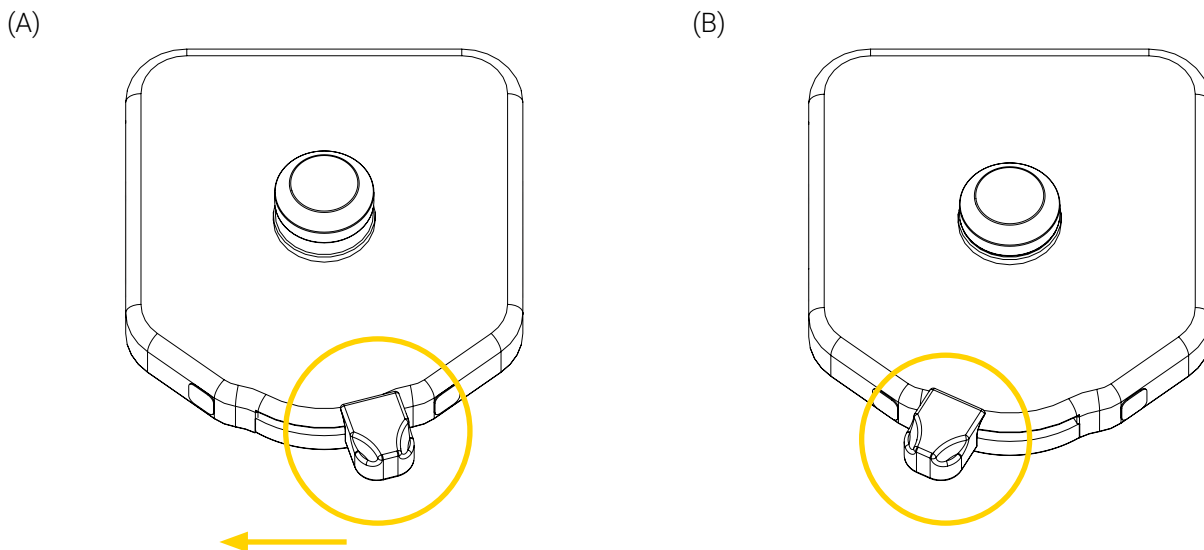

Figure 7: Unlocking the Universal Mounting Base
1. Unlock the Universal Mounting Base using slide locking lever (Figure 7) or skip to step 2. Refer to the « Safety Mechanism » section on page 19 if needed.